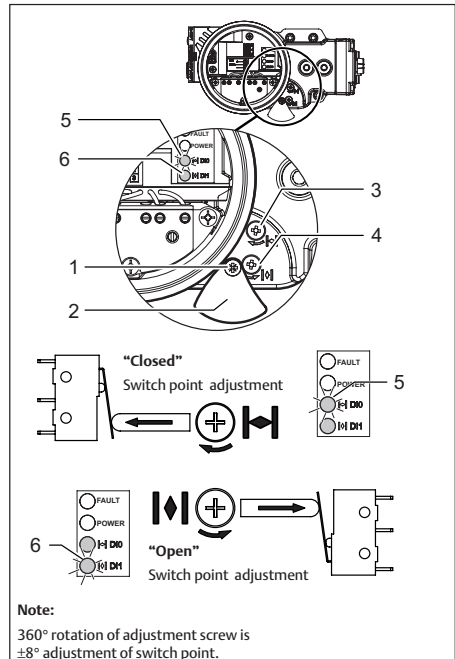

Fig. 5.3 Re-adjustment screws for "Open" and "Closed" position feedback
**Procedure (see Figure 5.3):**
1. Loosen the screw (1) of the shield (2) and turn the shield down.
3. Turn top screw (3) counter clock wise maximum 20 turns, (**do not force the adjustment screw**) until the switch trips and the corresponding LED (5) goes out.
4. Turn top screw (3) clock wise  $1 \frac{3}{4}$  turn (**do not force the adjustment screw**). The “closed” position switch point is now set to factory setting.
6. Turn bottom screw (4) clock wise maximum 20 turns, (**do not force the adjustment screw**) until the switch trips and the corresponding LED (6) goes out.
7. Turn bottom screw (4) counterclockwise  $1 \frac{3}{4}$  turn (**do not force the adjustment screw**). The “open” position switch point is now set to factory setting.
8. Turn the shield (2) back over the adjustment screws and fasten it with the screw (1).